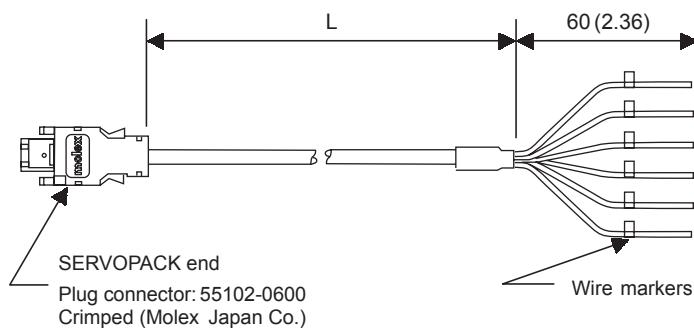

Fig. 7.9 Cables With a SERVOPACK Connector and Encoder Loose Leads
*Fig. 7.9* shows cable dimensions.